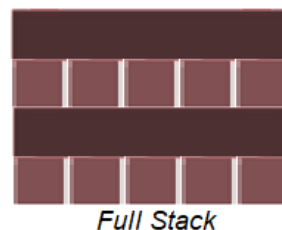

Figure 2
- 4) Full Stack – stack the blocking as seen in Figure 2.